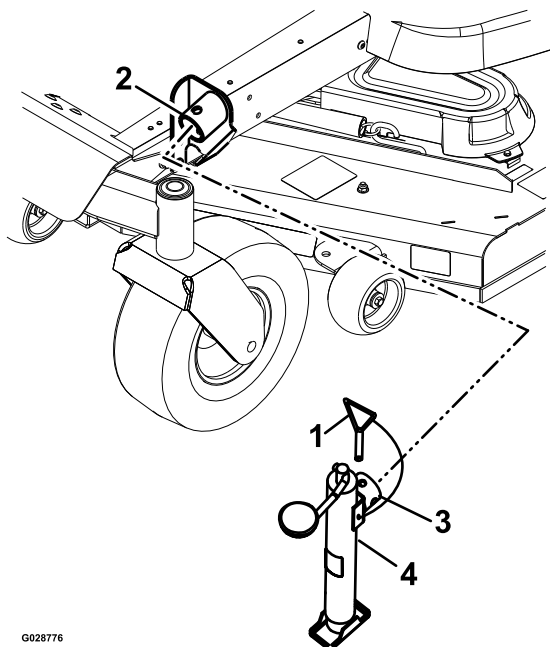

Figure 4
4. Insert the jack tube onto the jack mount, align the mounting holes, and secure the jack with the jack pin (see Figure 4).